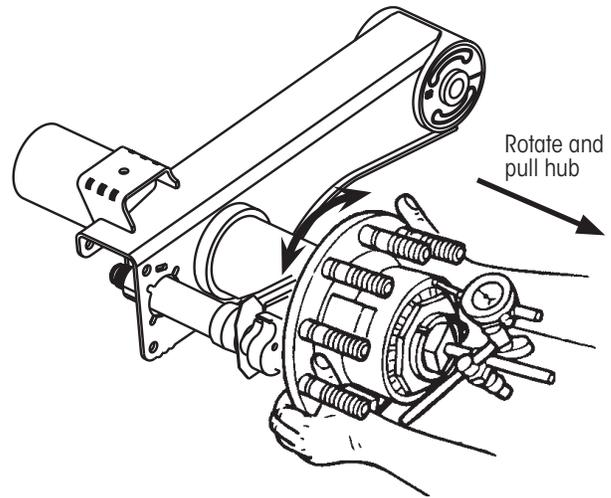

Figure 6: Checking outward end-play
9. While still grasping hub (Figure 6), **pull** hub outward **while rotating** hub slightly in both directions (15 - 30° between two holes) until dial indicator reading remains constant. **Record** reading.